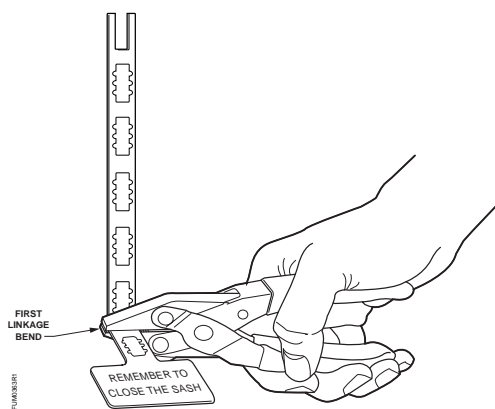

Figure 20. First Linkage Bend.
6. Using the linkage-forming tool, bend the linkage at a 45-degree angle on the second mark so the linkage is parallel to the sash (Figure 20).